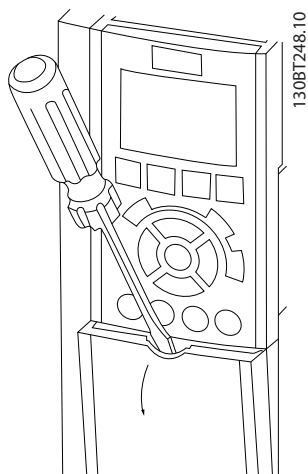
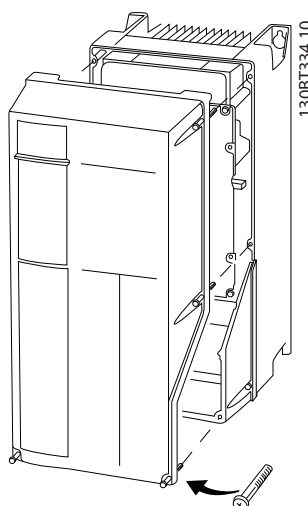

Figure 4.3 Access to Wiring for IP20 and IP21 Enclosures
Figure 4.4 Access to Wiring for IP55 and IP66 Enclosures
- Remove the cover with a screwdriver (see *Figure 4.3*) or by loosening attaching screws (see *Figure 4.4*).